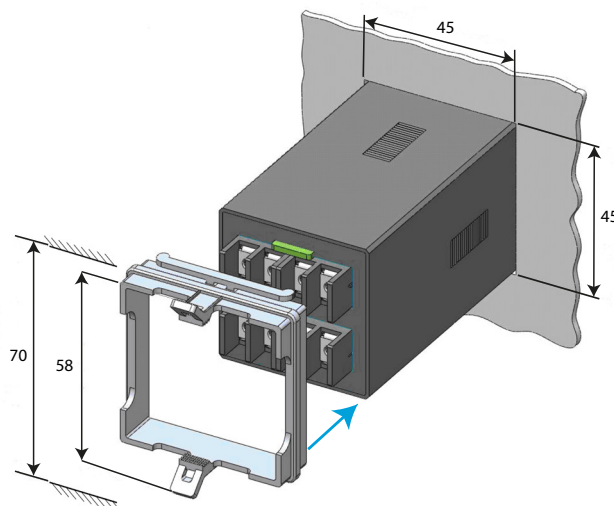

Figure 2: Installation.
2.- Remove the device's mounting frame (**Figure 2**).